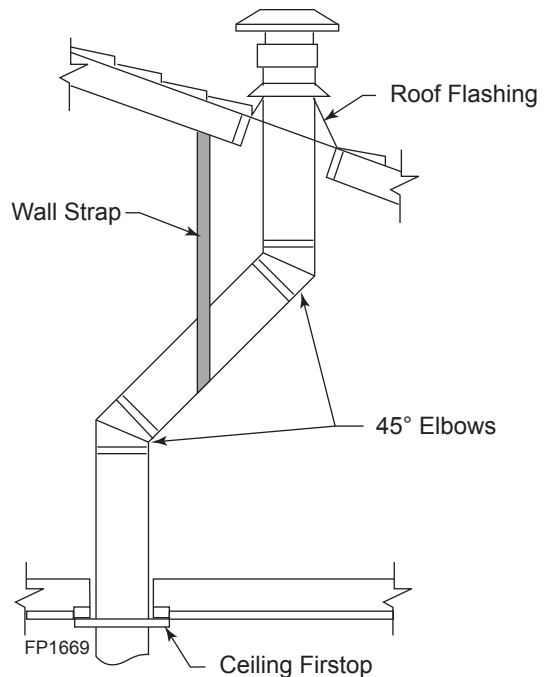

Figure 22 -
1. Determine the route your vertical venting will take. If ceiling joist, roof rafters or other framing will obstruct the venting system, consider an offset. Refer to Figure 22 to avoid cutting load bearing members.
NOTE: If an offset is needed to avoid obstructions, you must support the vent pipe every three (3) feet. Use wall straps for this purpose. *Figure 22.* Whenever possible, use 45° elbows instead of 90° elbows. The 45° elbow offers less restriction to the flow of the flue gases and intake air.